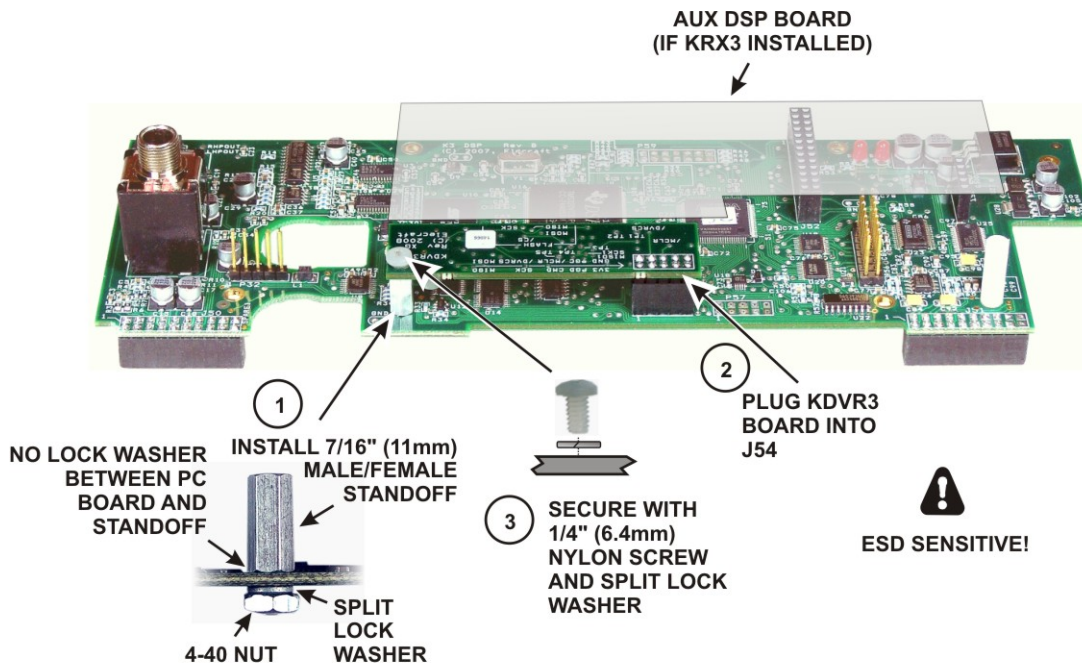

Figure 10. Installing the KDVR3 Board on the Main DSP Board.
□ Install the KDVR 3 board on the main DSP board as shown in Figure 10. Be sure you use the nylon screw. A metal screw here may short to the front panel board after reassembly. *Do not over tighten the nylon screw. It is easy to strip the threads. Look at the split in the lock washer and tighten the screw only until the washer is compressed flat.*